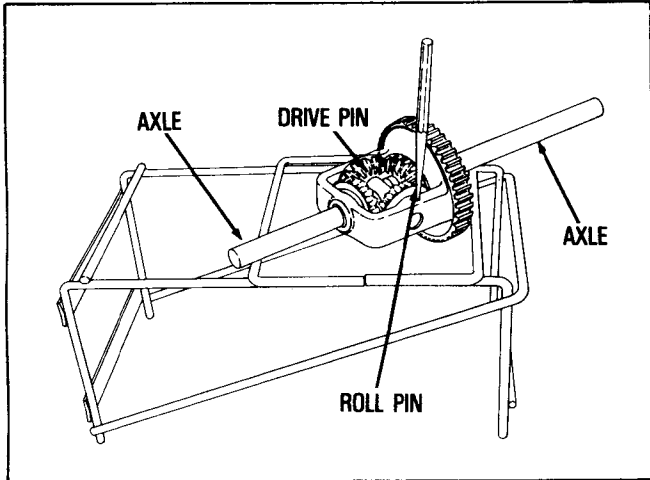

FIGURE 20
1. Use a suitable pin punch to drive out the roll pin that secures the drive pin. (See Figure 20).